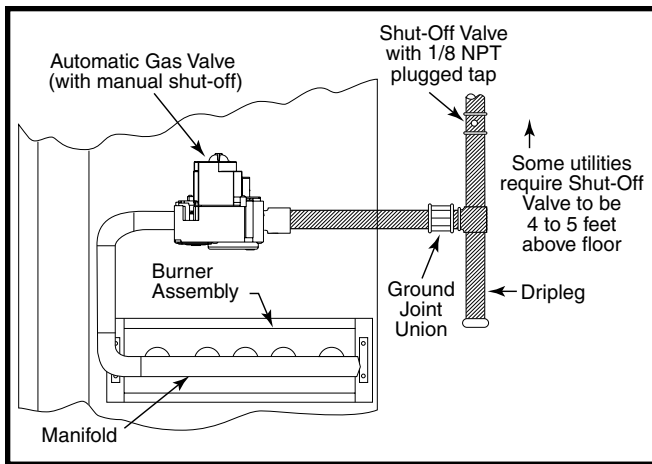

Figure 8. Typical Gas Hookup - Right Side Entry
- Some local codes require the installation of a manual main shut-off valve and ground joint union external to the furnace (Figure 8, page 18). The shut-off valve should be readily accessible for service and/or emergency use. Consult the local utility or gas supplier for additional requirements regarding placement of the manual main gas shut-off.
- A drip leg should be installed in the vertical pipe run to the unit (Figure 8).
This unit only has right side gas entry. When connecting the gas, provide clearance between the gas supply line and the entry hole in the unit's casing to avoid unwanted noise and/or damage to the unit. A typical gas service hookup is shown in Figure 8.